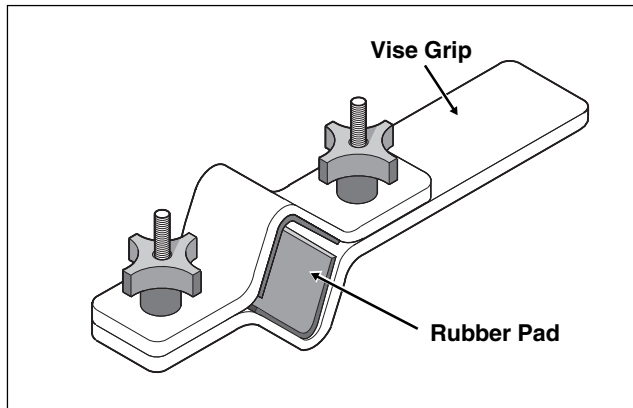

Figure 2-74. Fork Tube Holder (HD-41177)
3. Obtain the FORK TUBE HOLDER (HD-41177). See Figure 2-74. Proceed as follows: